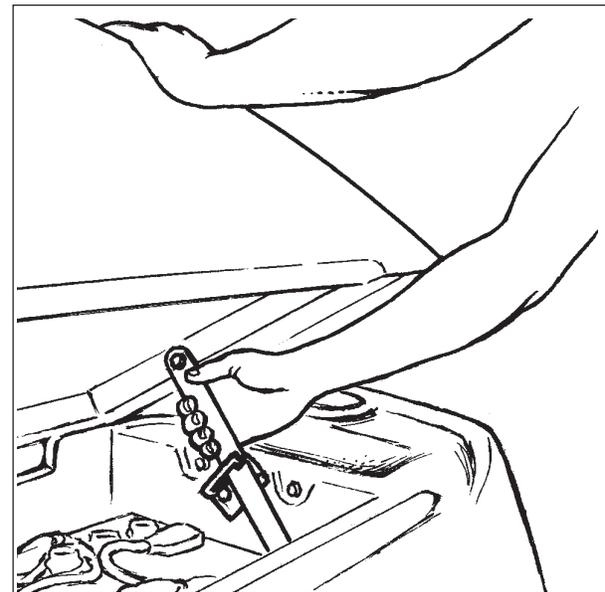

Figure 13
**NOTE:** There is an intermediate position available for holding the recovery tank open for charging batteries. See figure 13.